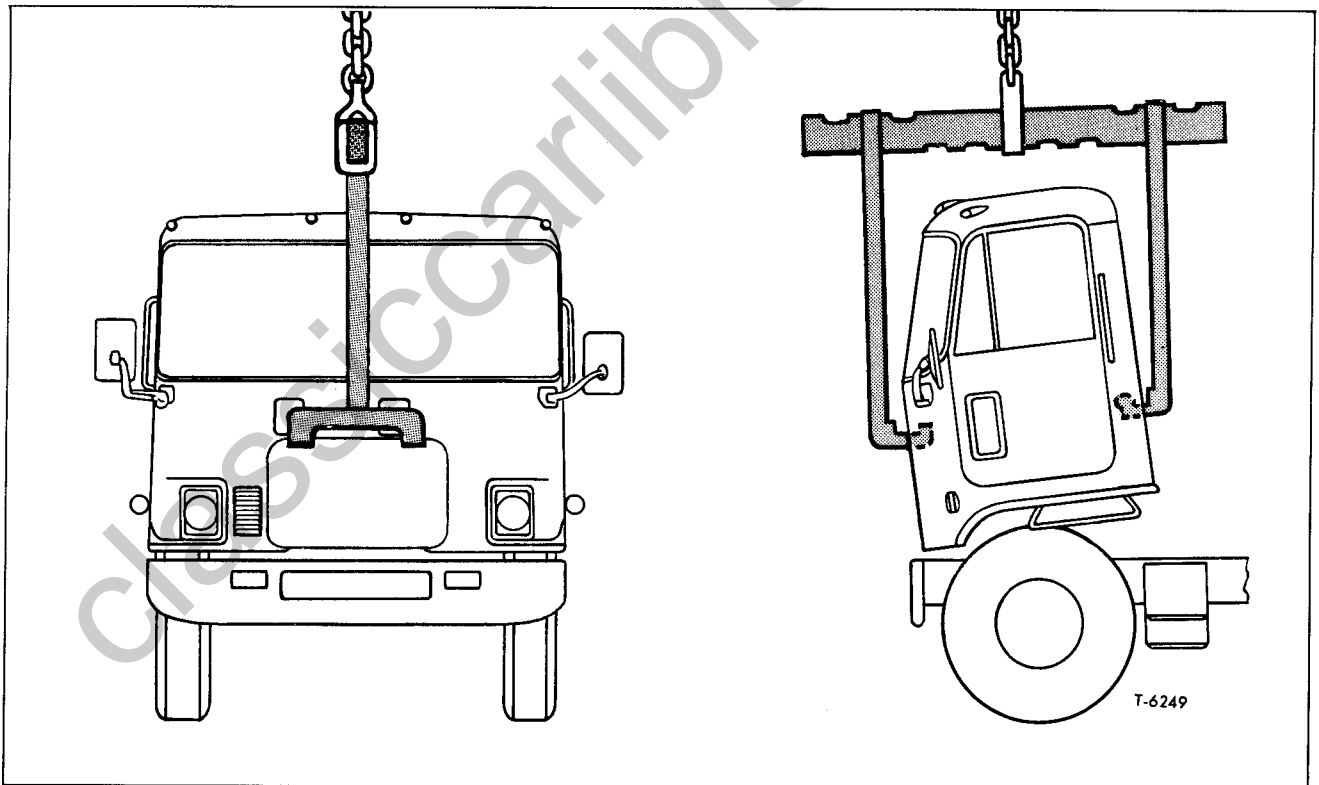

Figure 13—Cab Lifting Sling Attachment
REMOVAL (Fig. 13)
19. Attach hoist front adapter to upper edge of grill opening in cab. Attach hoist rear adapter to cab rear understructure (fig. 13). Raise hoist slightly to take weight of cab assembly from front mountings. Be sure adapters are positioned properly and are contacting cab understructure framing.
INSTALLATION (Fig. 13)